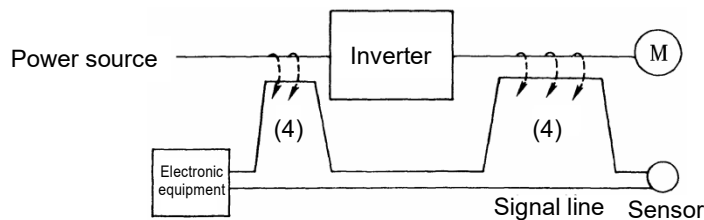
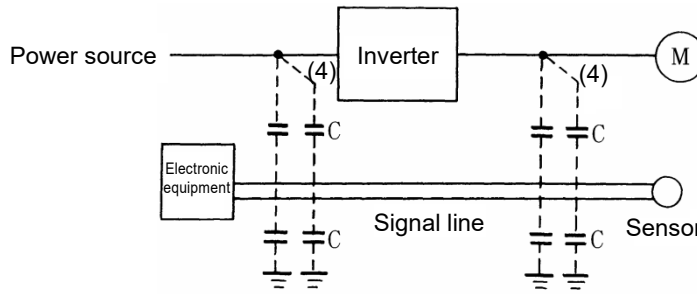

Fig. A.2-4 Electromagnetic induction noise
Fig. A.2-5 Electrostatic induction noise
(2) Induction noise
When wires or signal lines of peripheral devices are brought close to the wires on the input and output sides of the inverter through which noise current is flowing, noise will be induced into those wires and signal lines of the devices by electromagnetic induction (Fig. A.2-4) or electrostatic induction (Fig. A.2-5). This is called "induction noise" (4).